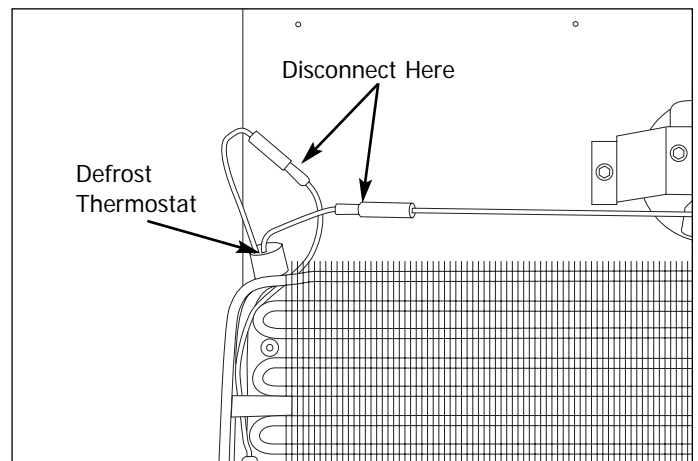

Figure 5-17. Defrost Thermostat Removal
The defrost thermostat is secured with a retaining clip to the upper left corner of the evaporator assembly. (See Figure 5-17)
4. Disconnect the defrost thermostat wire leads from the wire harness. (See Figure 5-17)